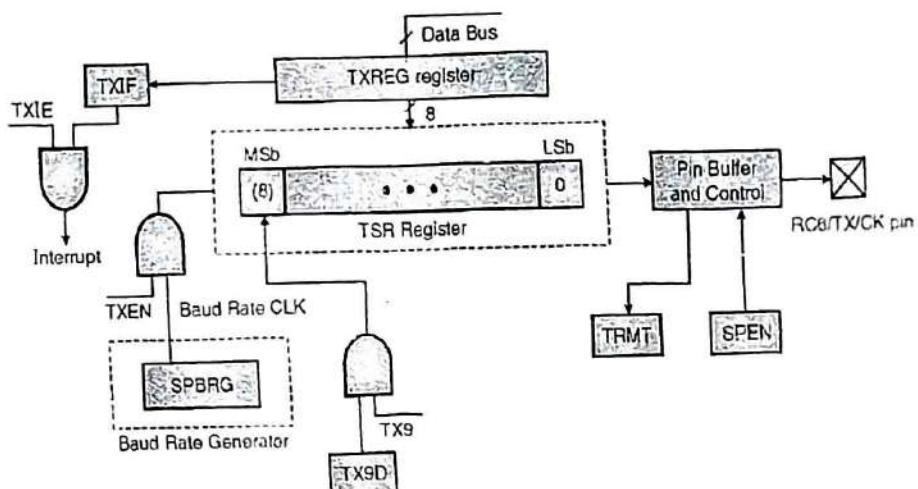

Fig. 9.6.1 : USART transmit block diagram
- The USART transmitter block diagram is shown in Fig. 9.6.1. The heart of the transmitter is the Transmit (Serial) Shift Register (TSR). The TSR register obtains its data from the Read/Write Transmit Buffer register (TXREG). The TXREG register is loaded with data in software. The TSR register is not loaded until the Stop bit has been transmitted from the previous load.